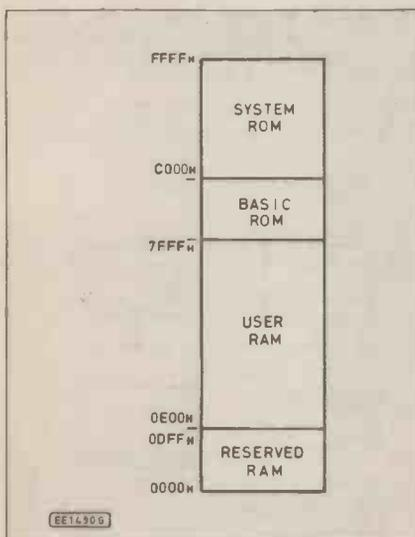

Fig. 9.5. See questions 11, 12 and 13.
11. (3.3.1) Fig. 9.5 represents a
12. (2.1.3) In the diagram shown in Fig. 9.5, the highest address (expressed in decimal) within the
13. (3.3.2) In the diagram shown in Fig. 9.5, the memory space occupied by the BASIC ROM (expressed in bytes) is